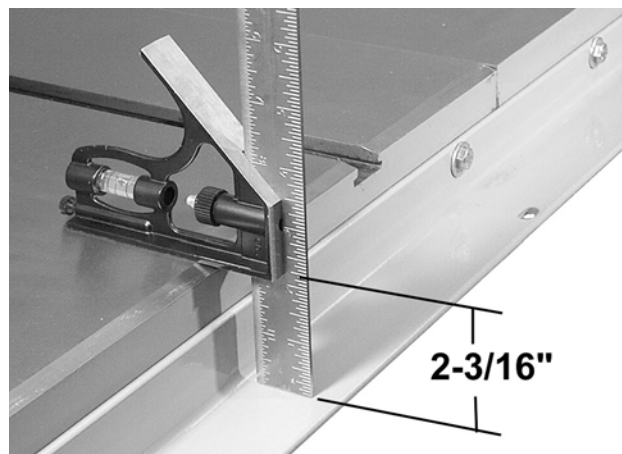

Figure 3
4. Place an adjustable square on the table as shown in Figure 3.